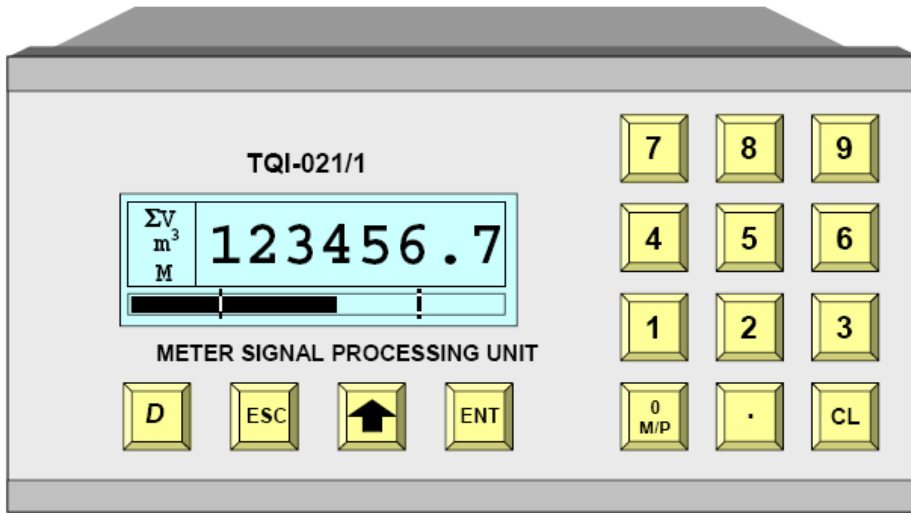

Figure 1 Keypad, display
3.2. Operating the pushbuttons (Figure 1.)